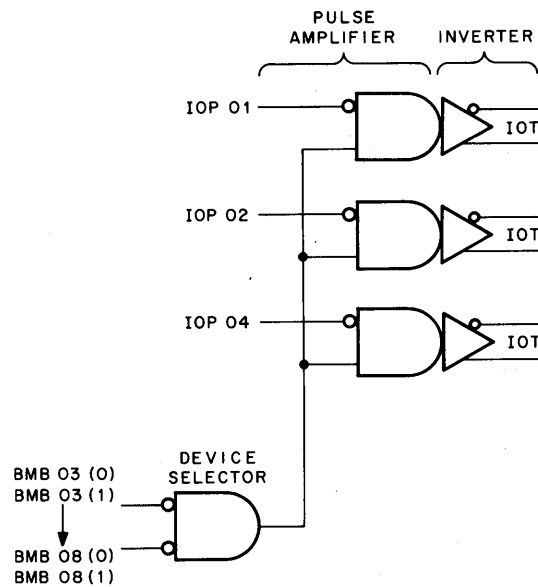

Figure 3-6 Chrom and LOC, IOT Decoding, Simplified Diagram
3.2.4 Chrom and LOC IOT Decoding (See Figures 3-6 and 6-5)